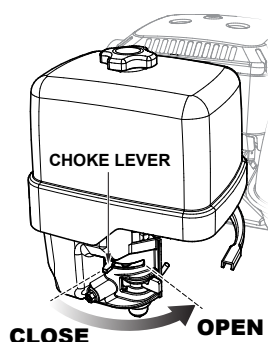

Figure 16. Choke Lever (Open)
7. If the engine has started and the choke lever was moved to the **CLOSED** position to start the engine, gradually move the choke lever to the **OPEN** position (Figure 16) as the engine warms up. If the engine has not started repeat steps 1 through 6.